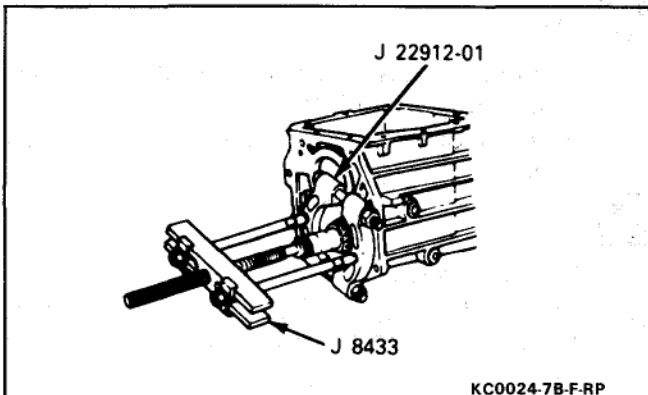

Figure 18 Removing Countershaft Bearing
27. Countershaft bearing using appropriate pullers (Figure 18).